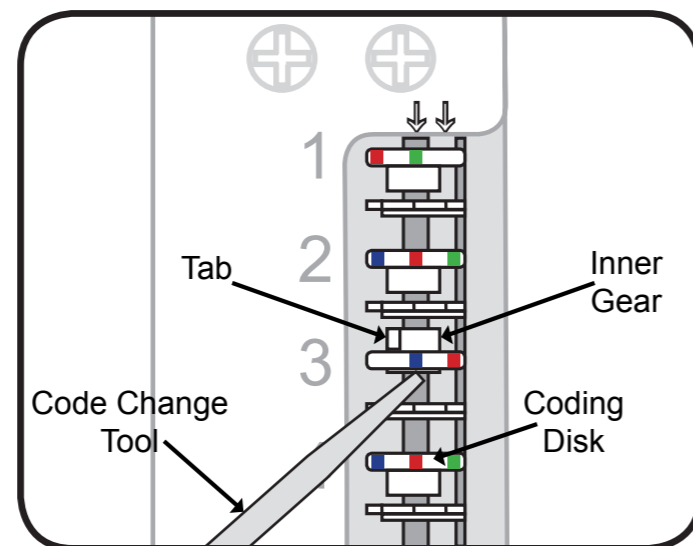

Fig.5
4. Decide what the unit wants to be code to. To change how a button is set in the code – this is done by using a small amount of upwards force lifting the inner gear using the code change tool (part no.12) until the tab on the inner gear becomes visible (as per fig.5).